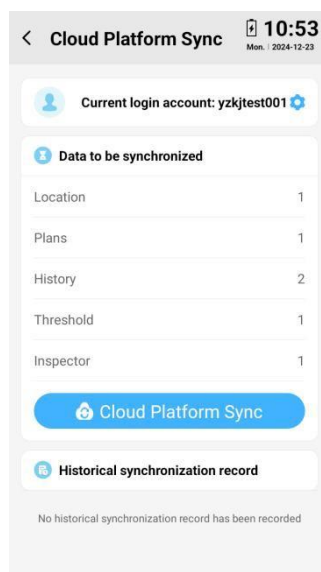

Figure 4.8-3 Cloud platform synchronization interface
(2) After logging in, you can perform cloud platform data pull or data synchronization upload, as shown in Figure 4.8-3. Clicking the "⚙️" button shown in Figure 4.8-3 will